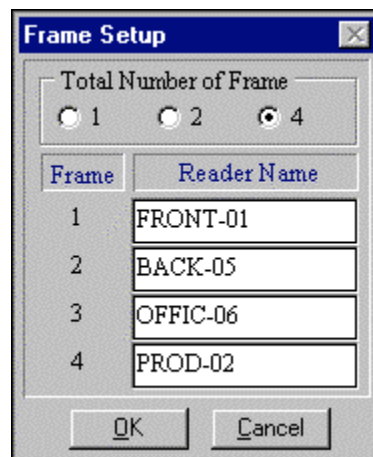

Figure 19.1 : Frame Setup
2. Upon selection, figure 19.1 appears.